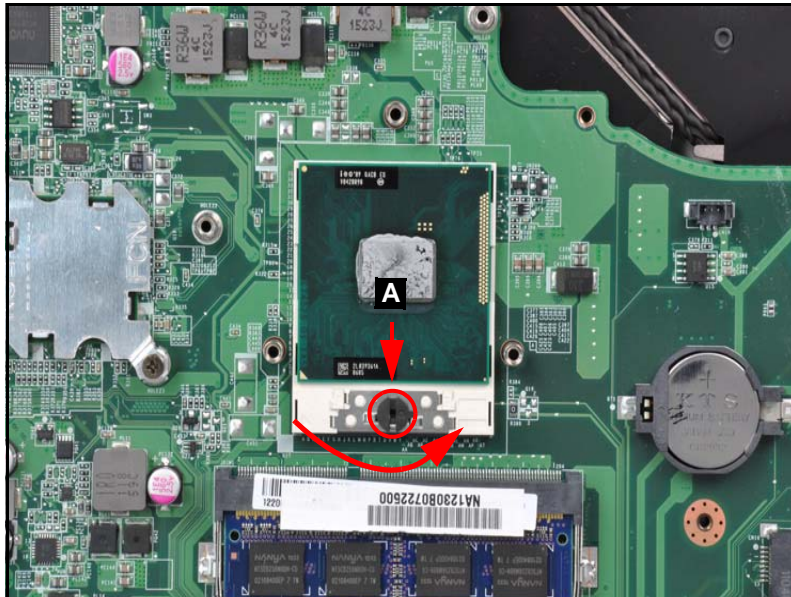

Figure 3-29. CPU Removal
1. Using a slotted screw driver, rotate the CPU camlock (A) 180° counter-clockwise (Figure 3-29).
1. Place the CPU into the CPU socket (Figure 3-29).